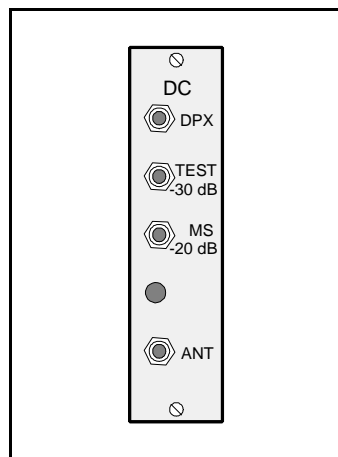
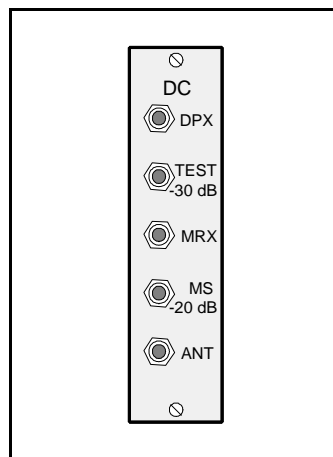
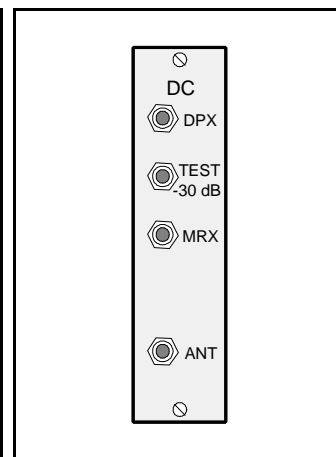

Figure 5-9. MS and BS directional coupler
Figure 5-10. BS directional coupler, high power CDMA
Figure 5-11. MS directional coupler, high power CDMA
The BS and MS directional couplers, see Figure 5-9, are identical for all repeaters except for the high power CDMA repeaters, which has BS and MS directional couplers depicted in Figure 5-10 (BS) and Figure 5-11 (MS).